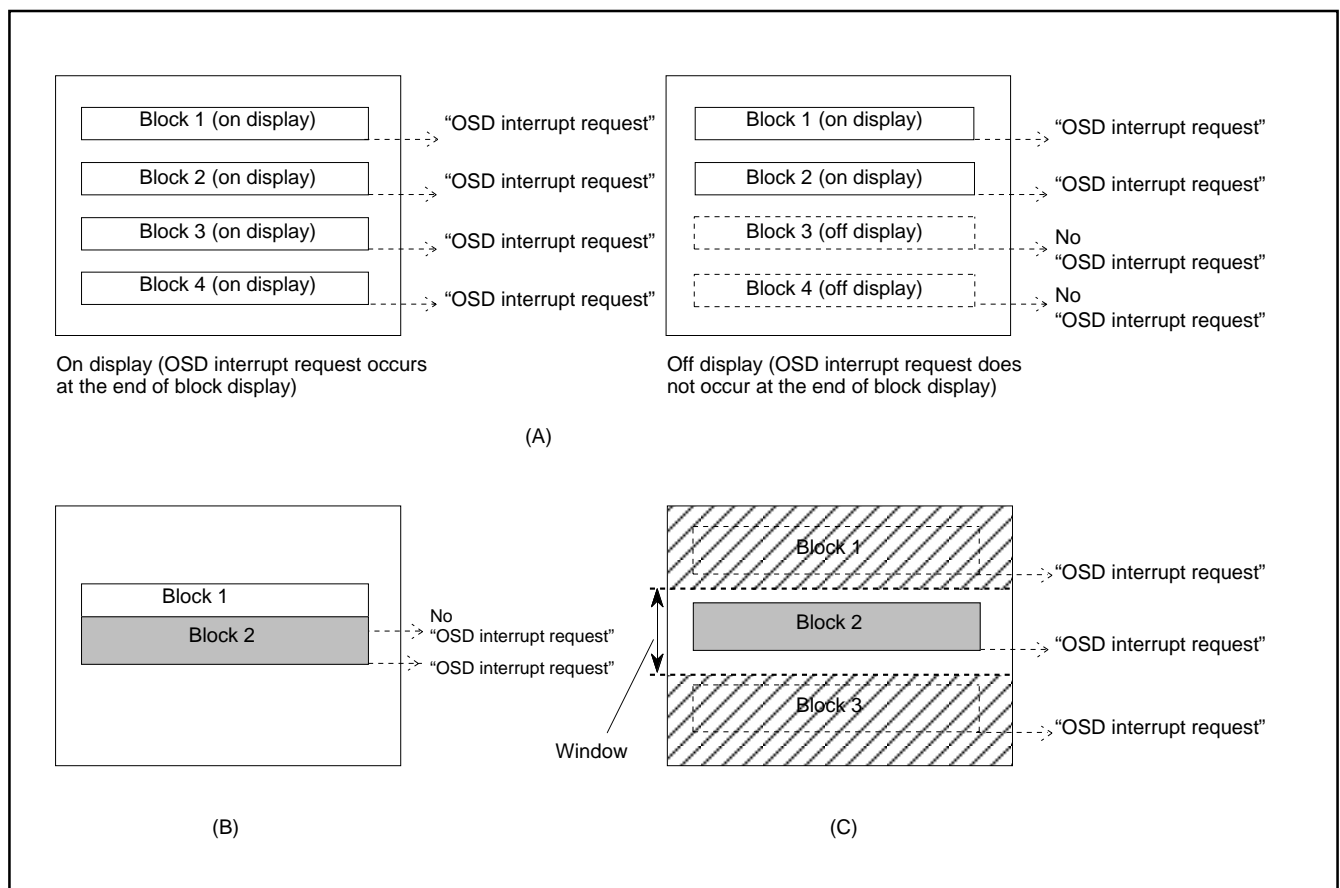

Fig. 8.11.37 Note on Occurrence of OSD Interrupt
Notes 1: An OSD interrupt does not occur at the end of display when the block is not displayed. In other words, if a block is set to off display by the display control bit of the block control register i (addresses 00D016 to 00DF16), an OSD interrupt request does not occur (refer to Figure 8.11.37 (A)).
2: When another block display appears while one block is displayed, an OSD interrupt request occurs only once at the end of the another block display (refer to Figure 8.11.37 (B)).
3: On the screen setting window, an OSD interrupt occurs even at the end of the CC mode block (off display) out of window (refer to Figure 8.11.37 (C)).